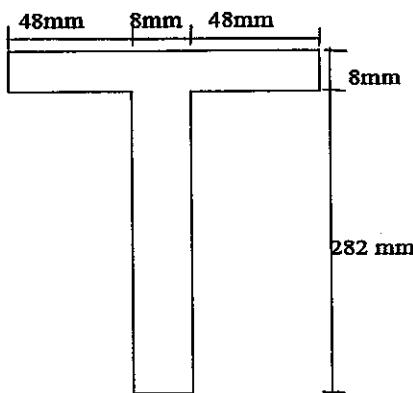

Figure B2/ Rajah B2
A T-beam with cross-section as shown in **Figure B2** is carrying a shear force of 3000 N.
- (c) Based on **Figure B2**: